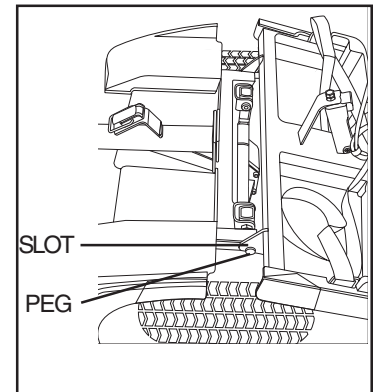

Figure 18. Separating The Frame Sections
3. Lift the front section up until the lower pegs are no longer in the slots. See figure 18.